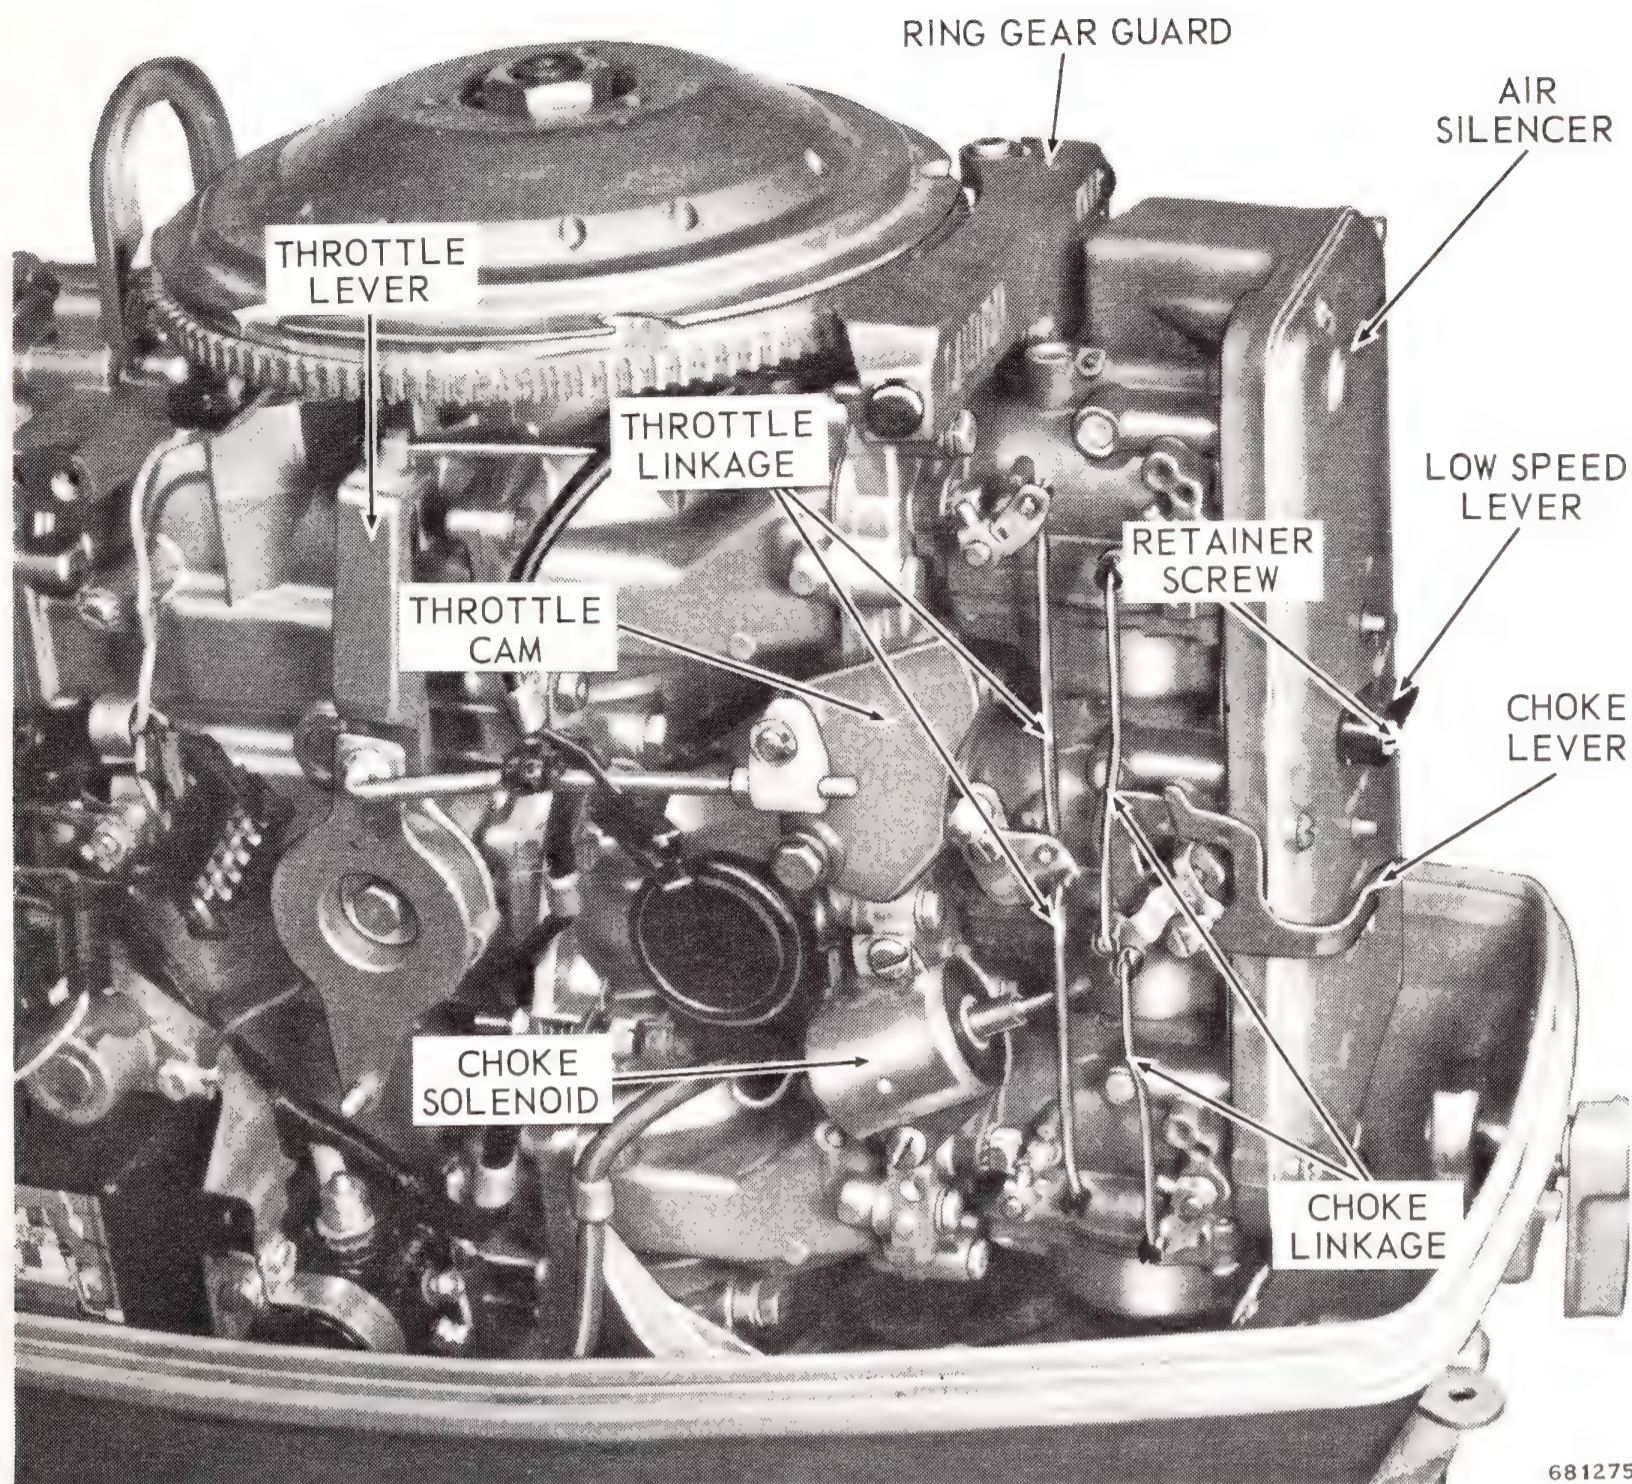

Figure 3-4. Carburetor
The choke solenoid operates the choke valves through a spring, allowing them to open partially as crankcase suction increases. See Figure 3-4.
- b. Remove screw retaining low speed adjustment lever, and pull off lever. See Figure 3-4.